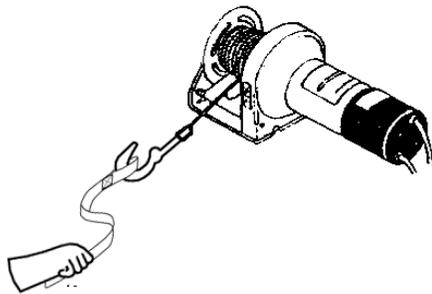

Figure 5
6. NEVER WINCH WITH LESS THAN 5 TURNS OF WIRE ROPE AROUND WINCH DRUM, since wire rope end fastener will not withstand a load. ALWAYS USE HANDSAVER when guiding hook for last few feet of rope (See Figure 5).